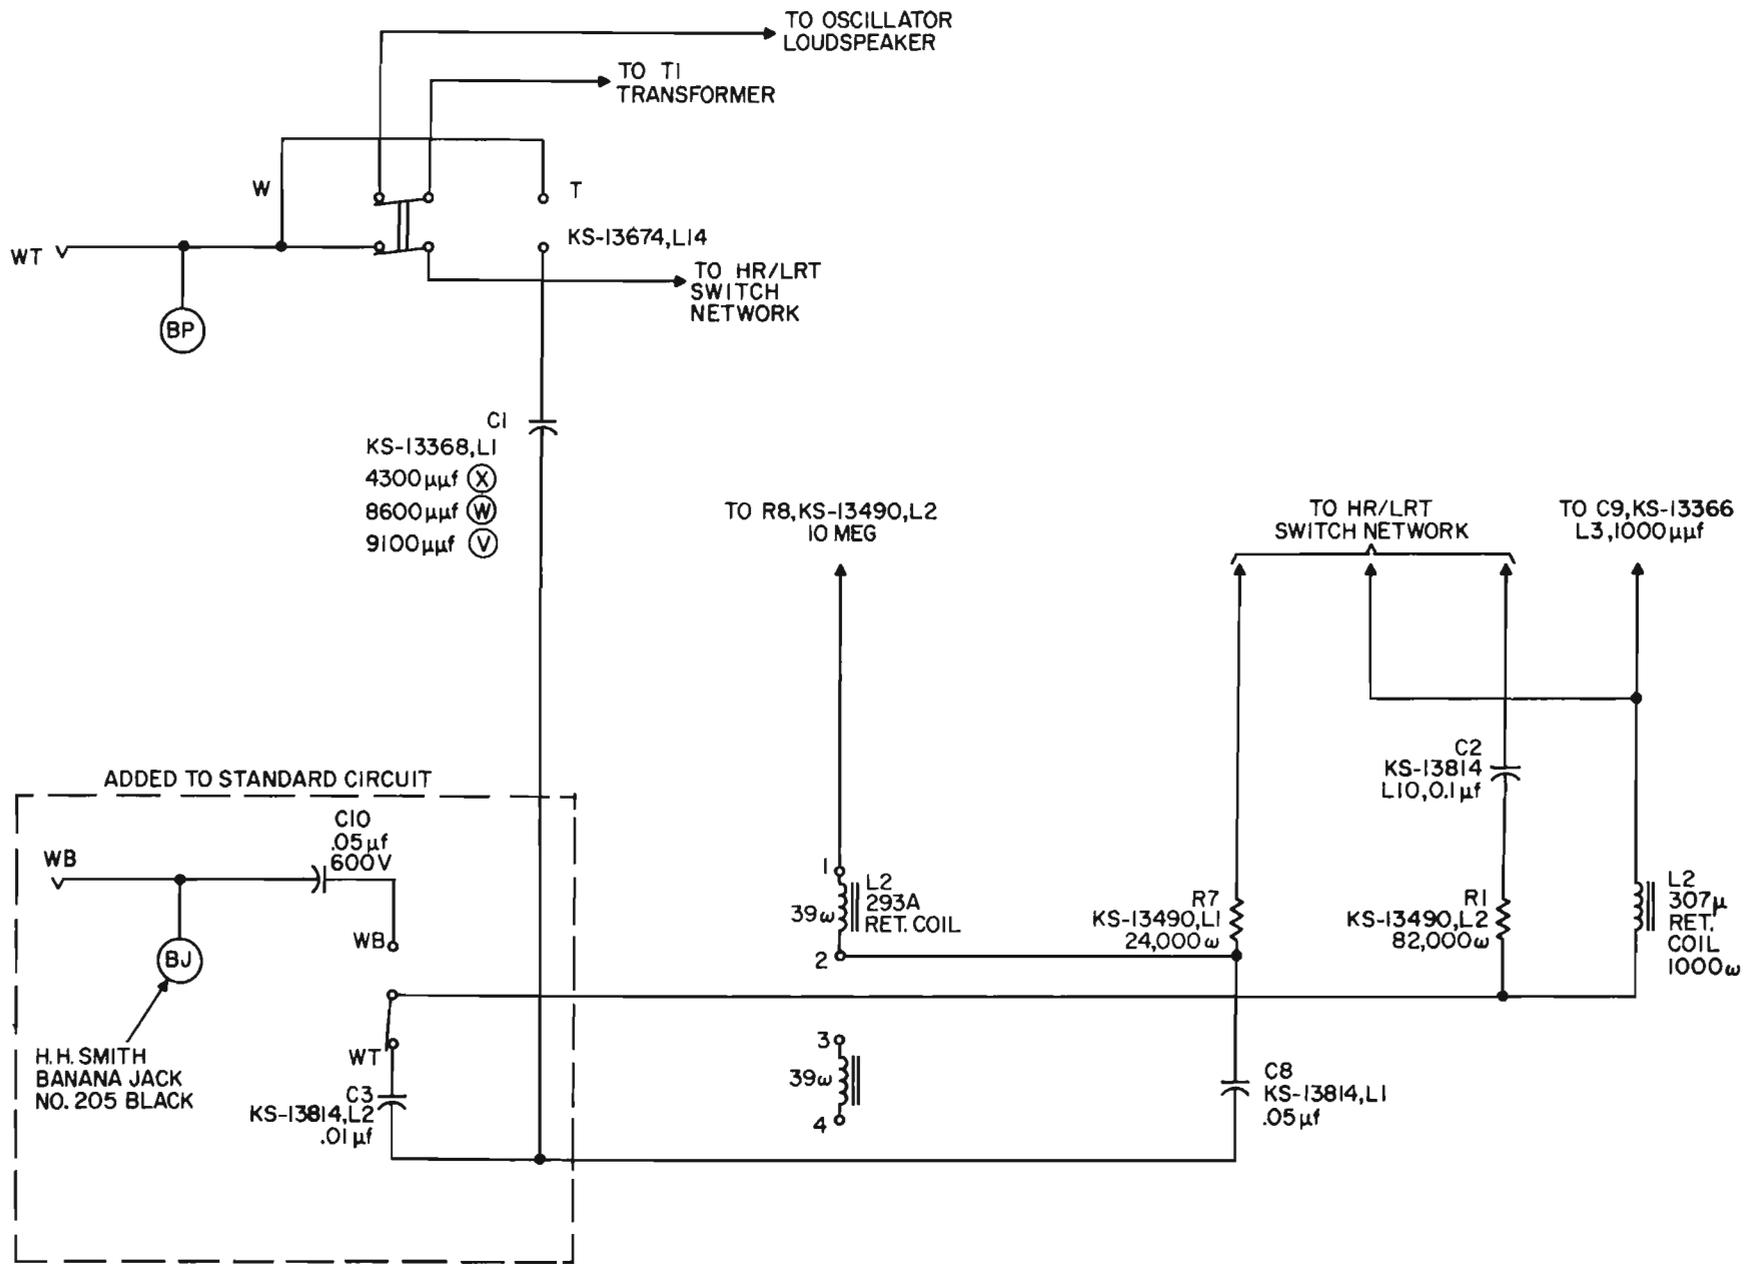

Figure 5. Partial Schematic of Modified J-94730B Oscillator, Showing Addition of WB Jack and WB/WT Toggle Switch.
3.02 Figure 5 is a partial schematic of the oscillator circuit showing how the modification (dotted lines) is added to the standard W.E.Co. circuit.